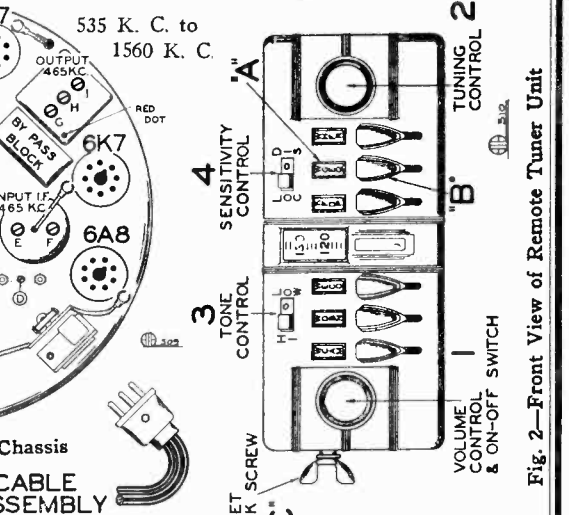

Fig. 2—Front View of Remote Tuner Unit
- There are six levers on the dial by means of which six stations may be selected. (See "B", Fig. 2). Press **DOWN** ALL THE WAY any one of the automatic tuner levers. Holding it down **FIRMLY**, tune in by means of the tuning knob (No. 2) the station indicated on the station call letter tab above this lever. Turn the tuning knob very slowly back and forth (while still holding lever in downward position) until the signal is clearest. The station will then be accurately tuned in. Release the lever. Press down another automatic tuner lever. Holding it down **FIRMLY**, carefully tune in the station indicated on the station call letter tab above this lever. Release this lever. Follow this procedure until you have selected all of your favorite stations.
- Now Rotate the turning knob (No. 2) to the left (counter-clockwise) as far as it will turn, and tighten the special reset lock screw ("C") located on left side of remote tuner unit. (See Fig. 2).